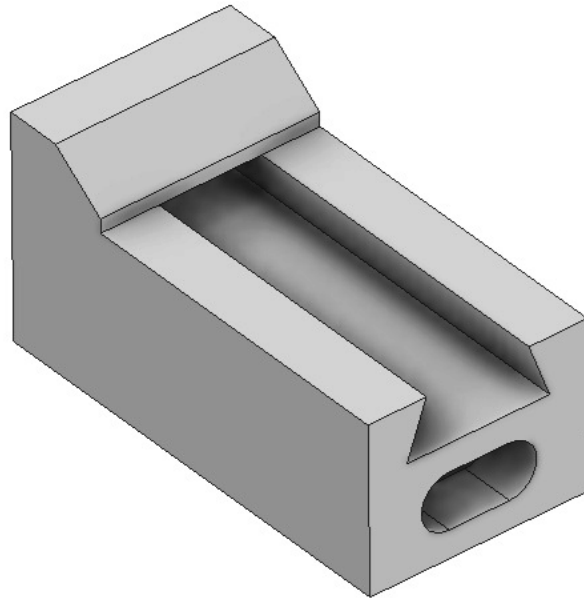

Figure 8
10. Your screen should look similar to Figure 8.